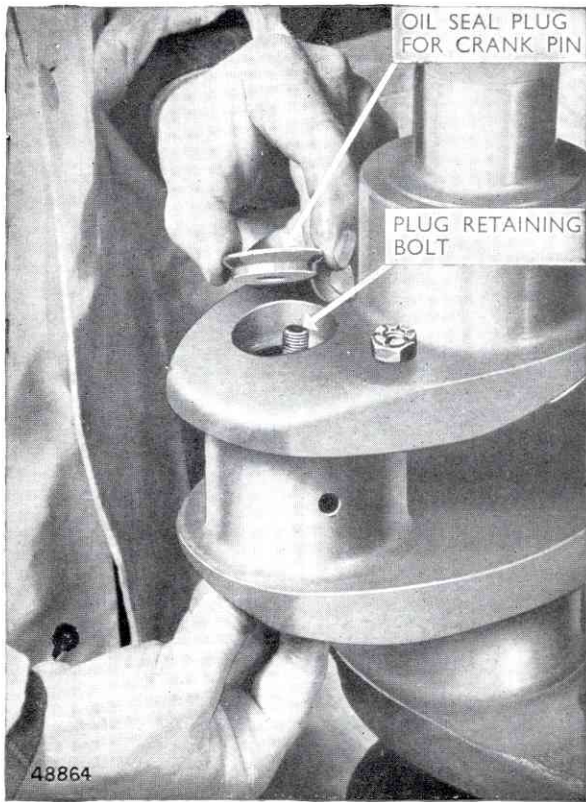

FIG. 48. REMOVAL OF OIL SEAL PLUG
2. Remove the oil seal plugs, Fig. 48, and flush out the oil passages and oil holes. Replace the seal plugs and bolts, **do not** use sealing compound on these plugs. Ensure that the nuts are split-pinned and smear the main bearing journals with clean engine oil.